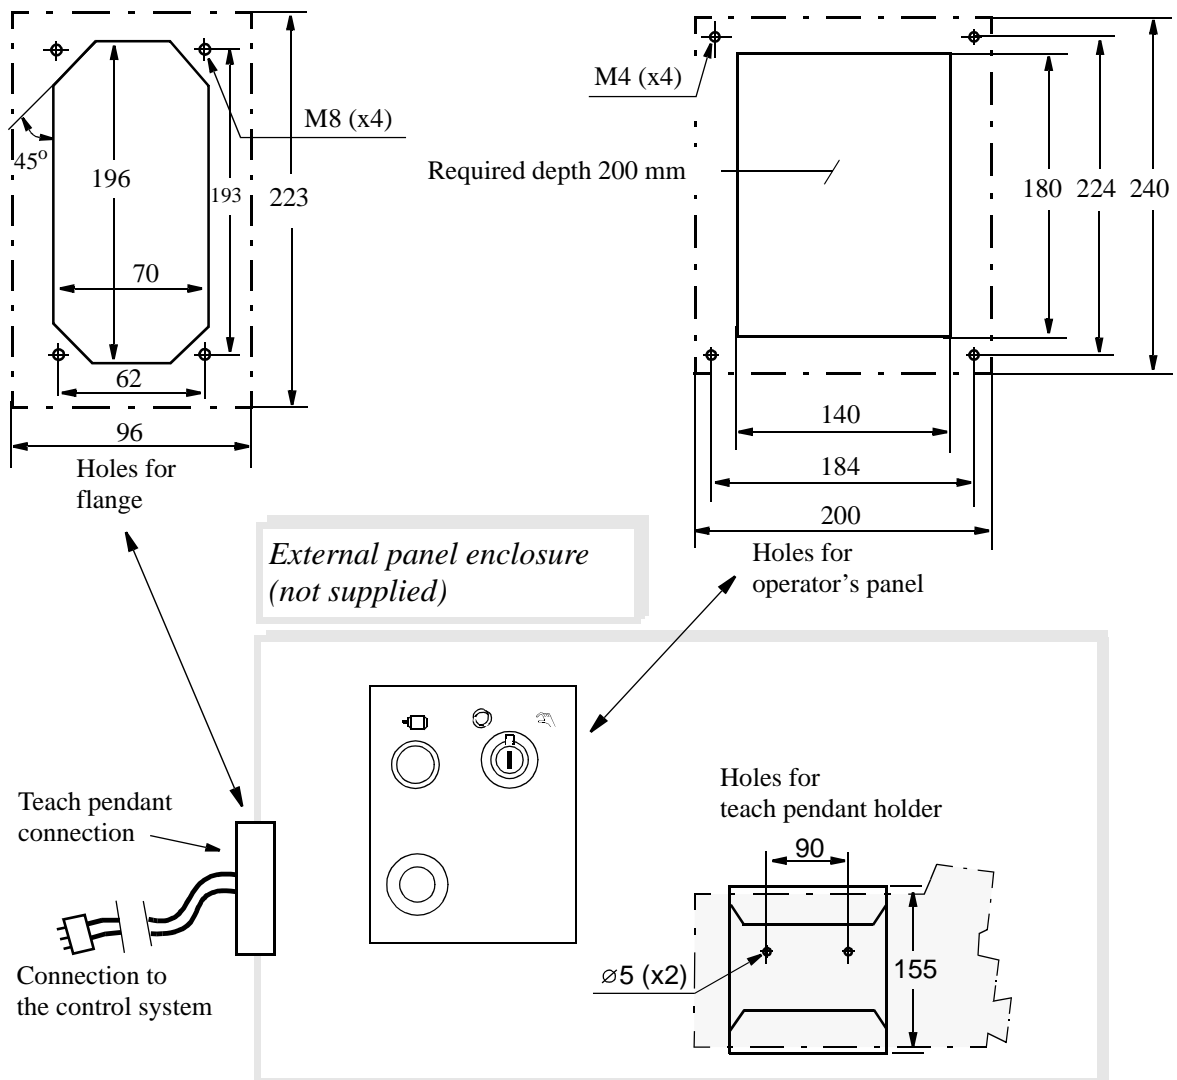

Figure 18 Required preparation of external panel enclosure (all dimensions in mm).
- 182 External, i.e. in a separate operator's unit. (See Figure 18 for required preparation)